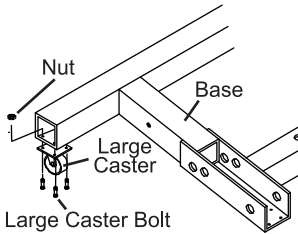

Figure 1
1. To attach two Large Casters (17) to the rear section of the Base, align the four mounting holes in each Large Caster with the four mounting holes on the underside of each Base end. Secure in place using four Large Caster Bolts (18) and Nuts (16). See Figure 1.